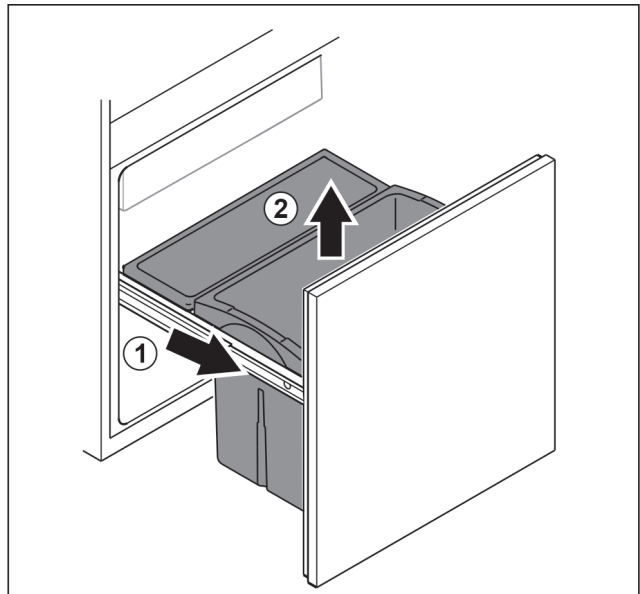

Fig. 105
- ▶ Remove the pull-out unit as far as it will go. Fig. 105 (1)
- ▶ Remove drawer upwards. Fig. 105 (2)